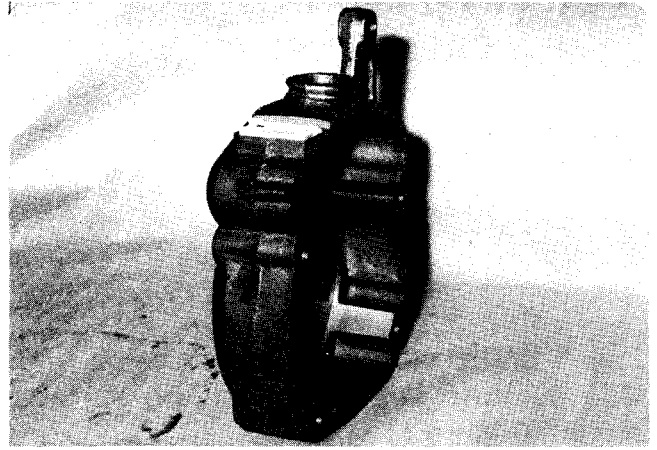

Figure 4
4. Install brake slave cylinder and seal with silicone sealer. (Figures 4&5)